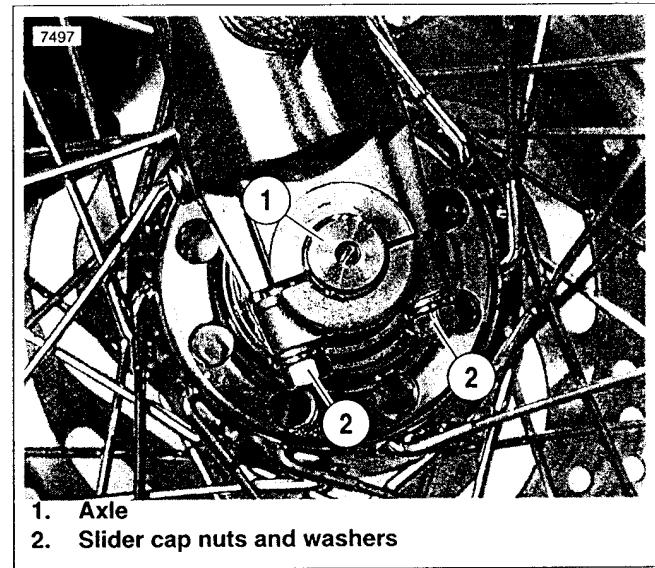

Figure 2-4. Front Wheel Mounting: FXDWG
- Remove axle nut, lockwasher and washer (3).
- See Figure 2-4. For FXDWG models, loosen the slider cap nuts (2) and pull the axle (1) free.
- b. See Figure 2-4. On FXDWG models, tighten the slider cap nuts to 60-132 in-lbs (6.8-14.9 Nm).